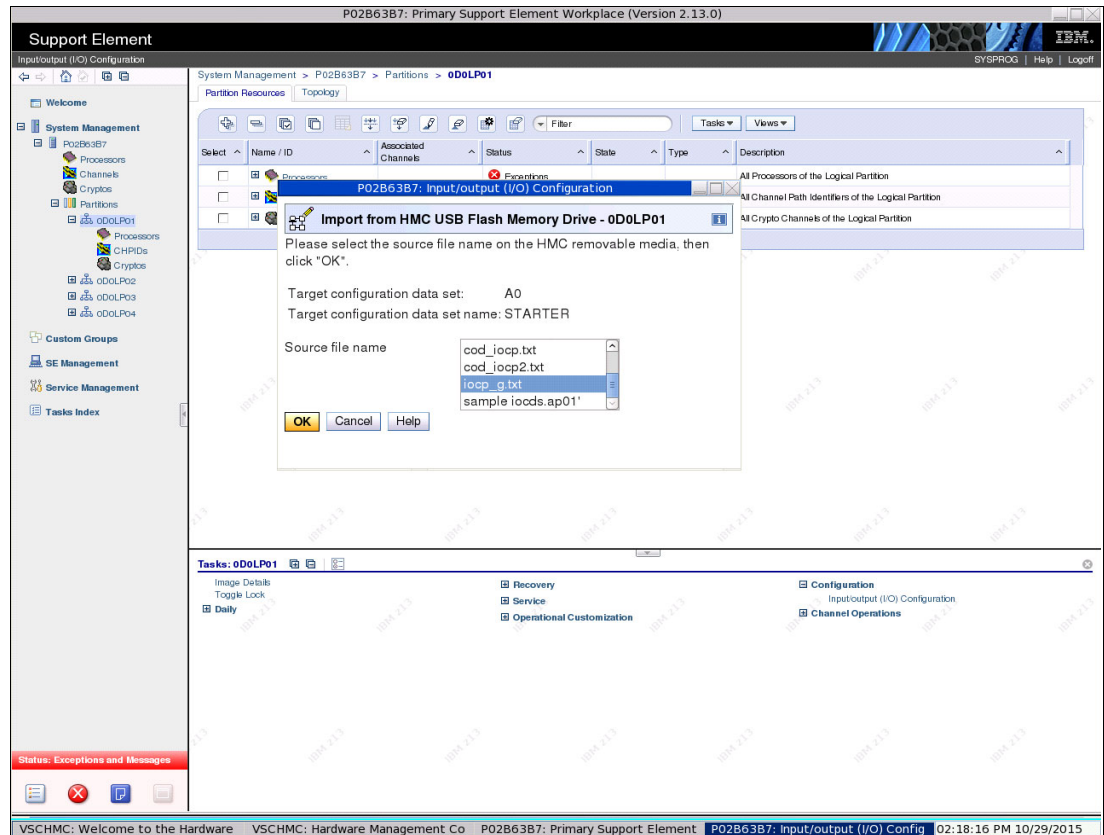

Figure 5-19 IOCS file selection
6. A new window opens that features a file selection list. We select our IOCS file and select **OK**, as shown in Figure 5-19.